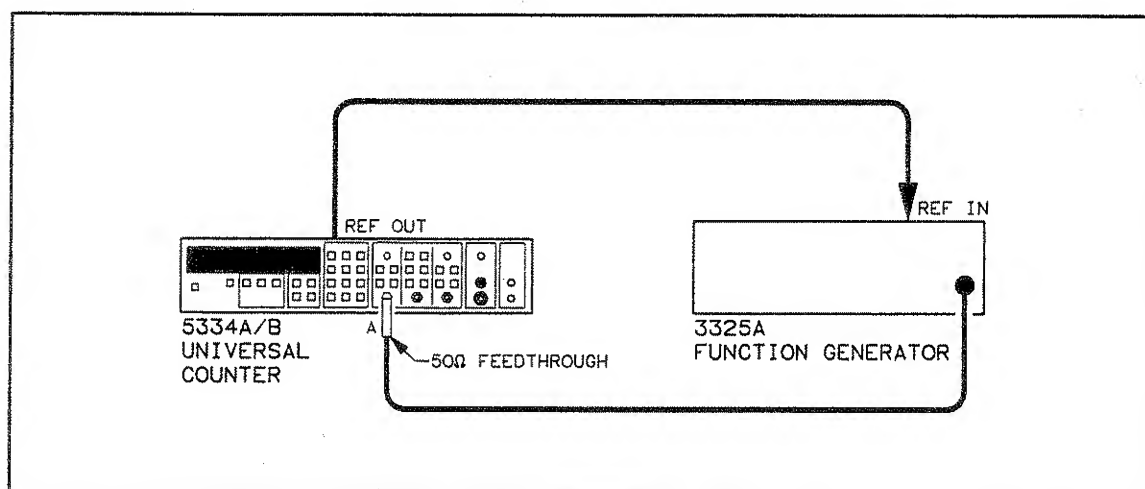

Figure 4-2. Channel A Frequency and Sensitivity Setup, 10 Hz-20 MHz
3. Connect the function generator signal to the HP 5334A/B Input A using a 50 Ohm feedthrough connector as shown in Figure 4-2.